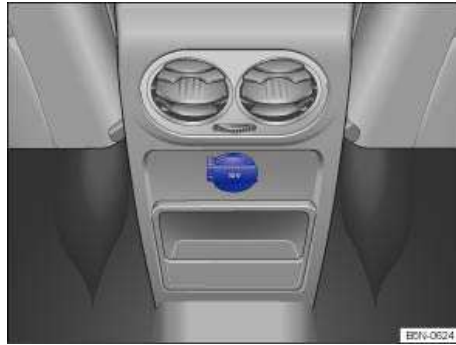

Fig. 134 Rear center console: 12 Volt socket.
- In the rear center console ⇒ fig. 134.